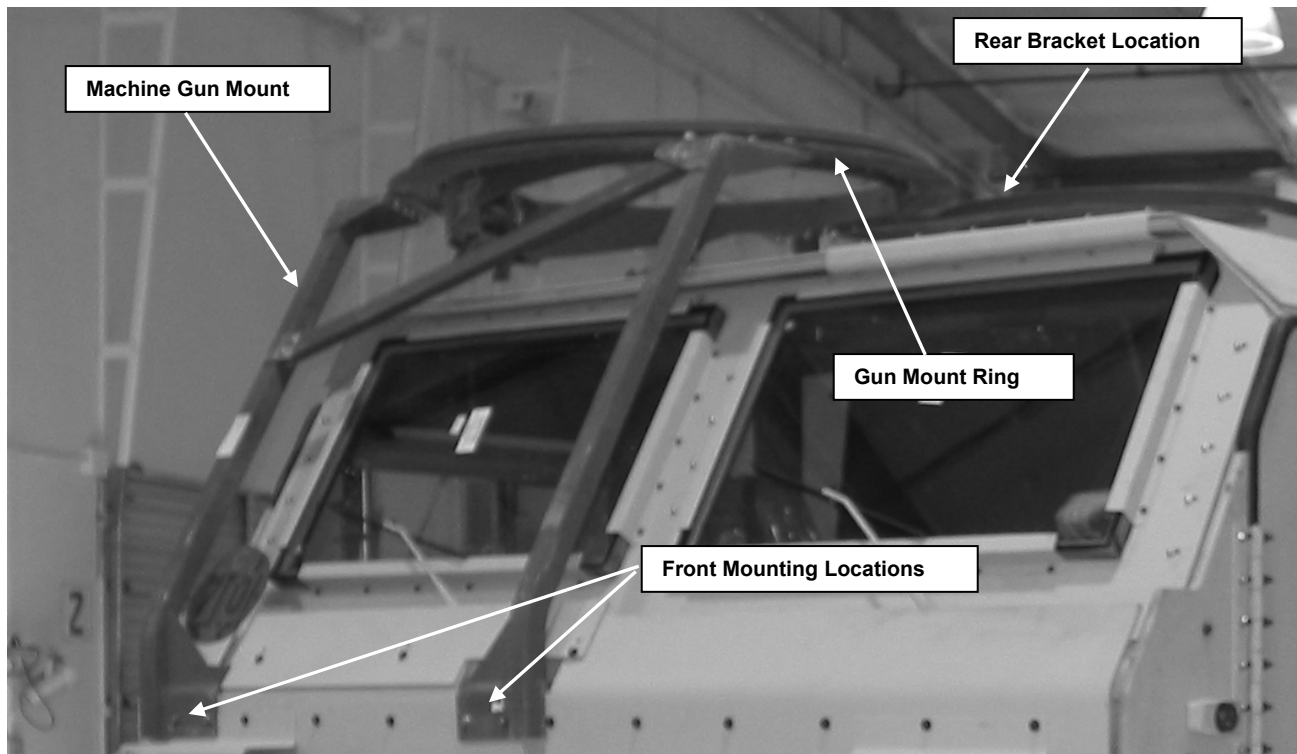

Figure 2. Machine Gun mount.
- a) If the Vehicle is equipped with a Machine Gun Mount (See Figure 2), temporarily remove the equipment and re-install it after the CPK has been installed.